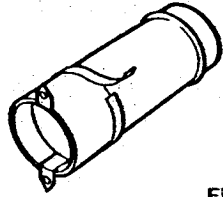

Fig. 64
6. Refit the end piece to the liner and open out to the thickness of the wall. Seal the two pieces together using the tape provided with the kit (Fig 64).